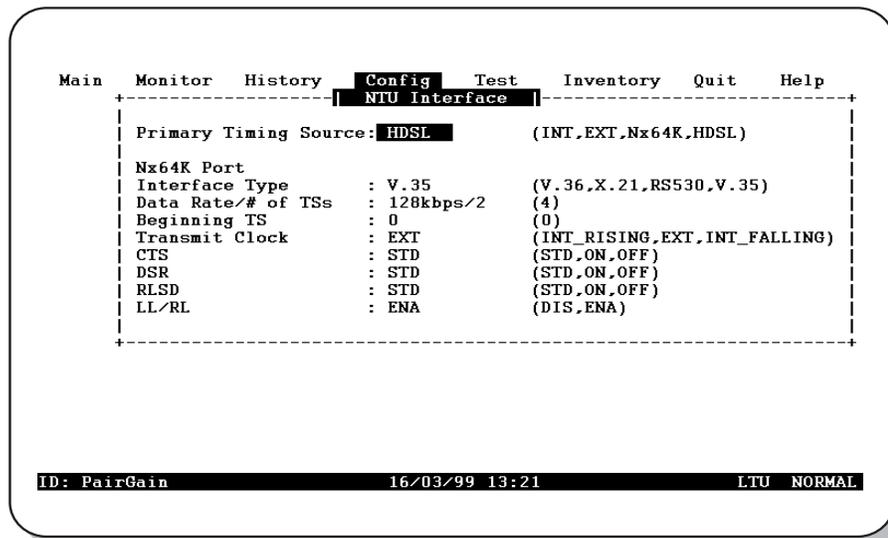

Figure 25. Config NTU Interface Menu
- **N** for the *Config NTU Interface* menu (Figure 25).